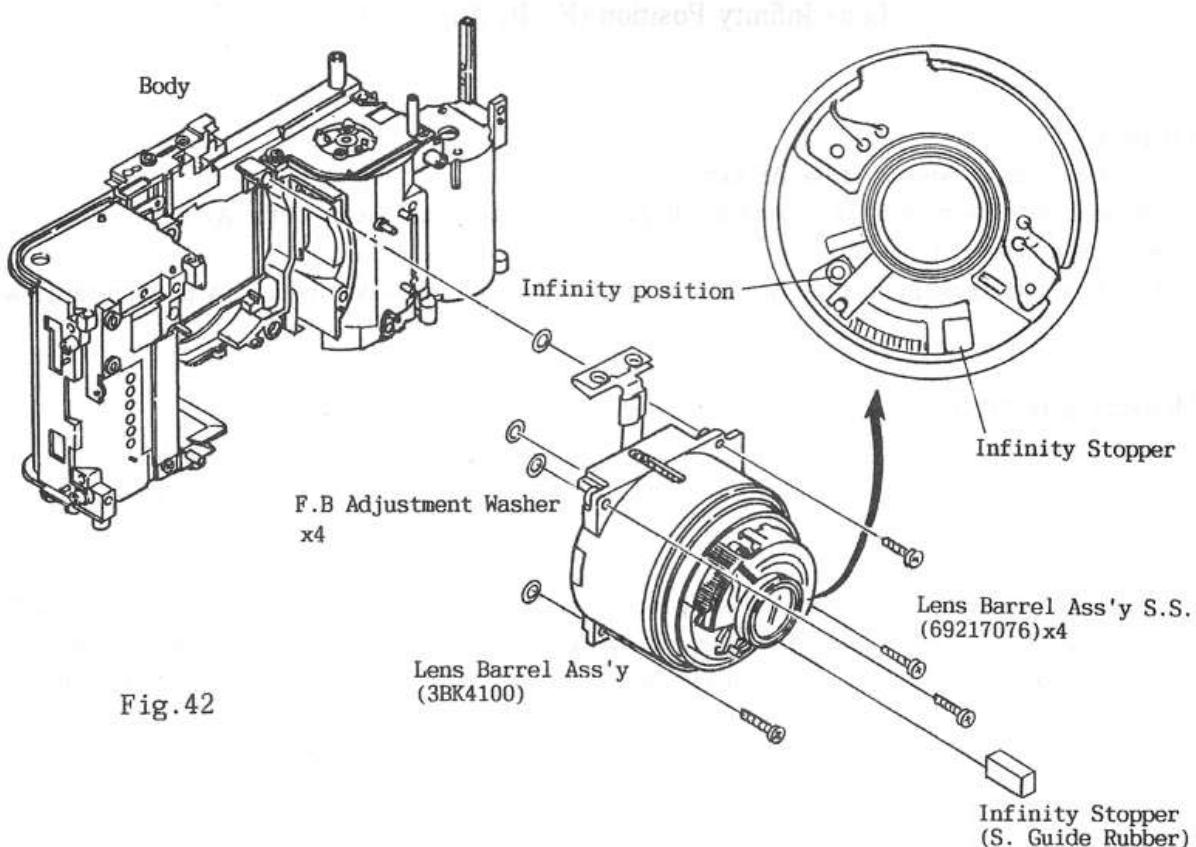
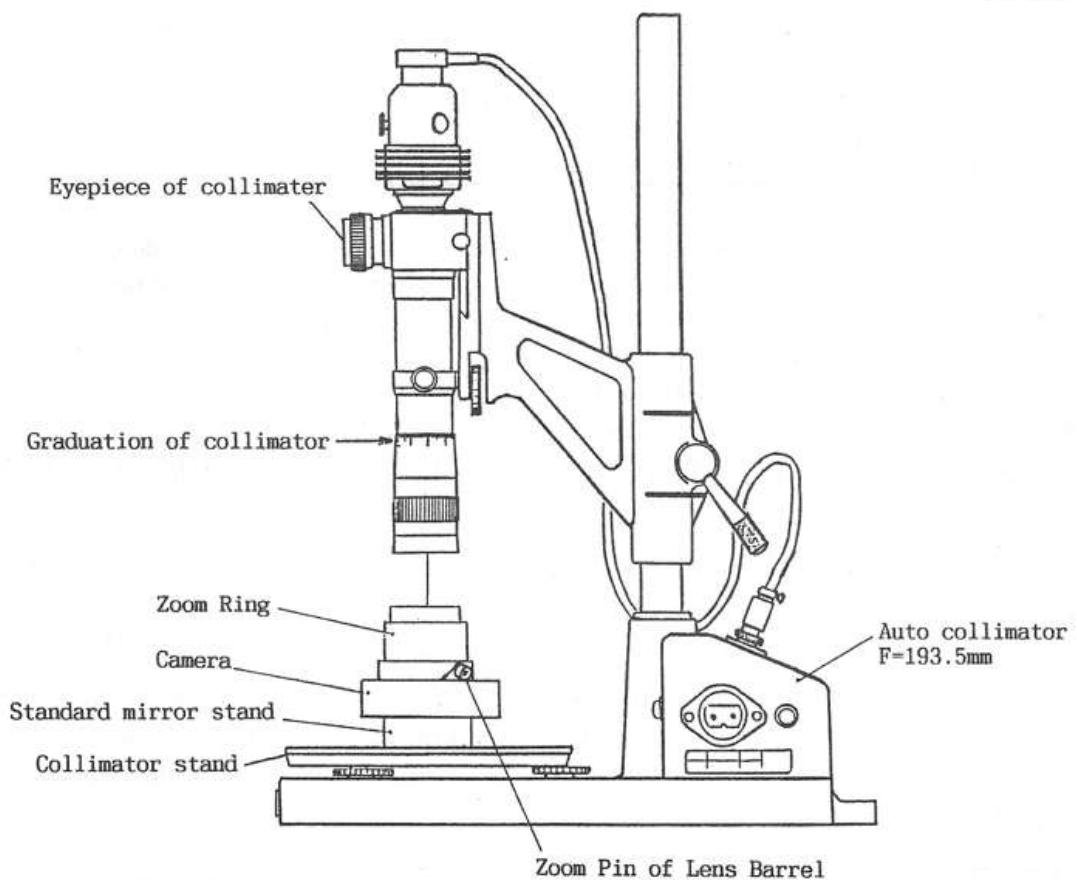

Fig. 42
Fig. 43
- ① Place the F.B Adjustment Washers (t:0.40) (60141810) × 4 between the Body and the Lens Barrel Ass'y and tighten the Lens Barrel Setscrews (69217076) × 4.
- ② Remove gently the Infinity Stopper (S.Guide Rubber) installed in the Shutter. (See Fig. 42)
- ③ Set the camera on the standard mirror stand and set them on the collimator stand.
- ④ Move the Zoom Pin of the Lens Barrel and set the Zoom in the TELE position. (See Fig. 43)